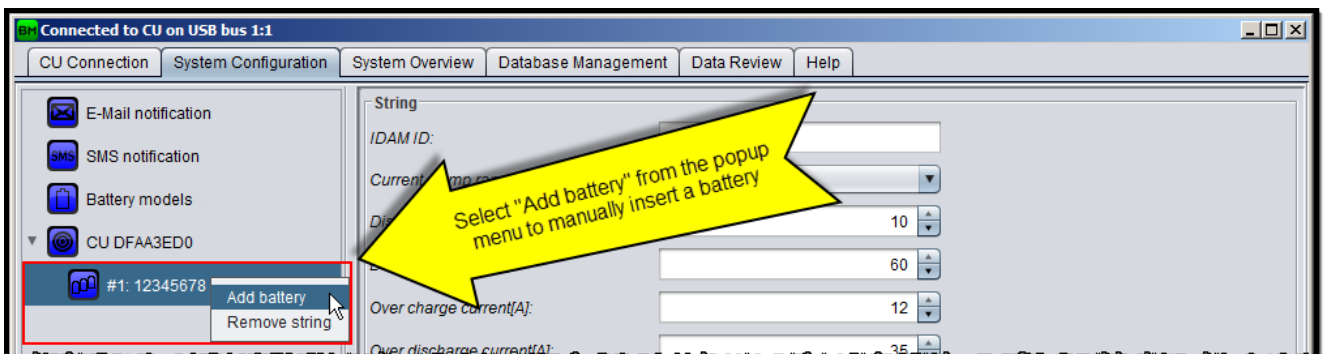

Figure 36: Manually add battery
1. Right click on the String icon to open the popup menu and select “Add battery” as shown on Figure 36.